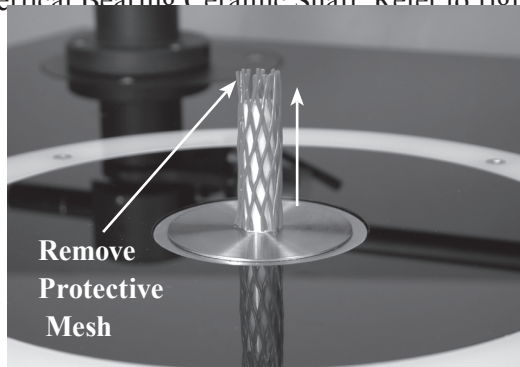

Figure 1
1. Remove the protective mesh from the Turntable Vertical Bearing Ceramic Shaft. Refer to figure 1.